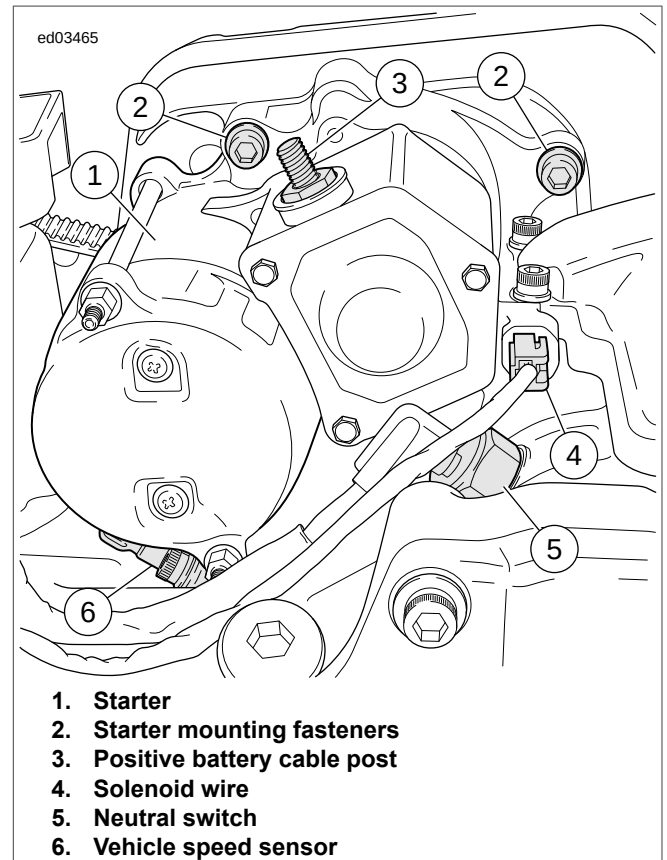

Figure 7-30. Starter
- See Figure 7-30. Apply LOCTITE 243 MEDIUM STRENGTH THREADLOCKER AND SEALANT (blue) to